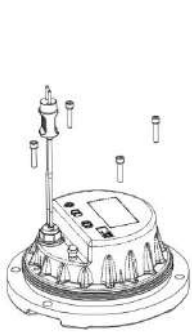

Figure 4-12
- Place the top of the lighting fixtures downwards and dismount 4 M5×25 hexagon socket cap screws (Figure 4-12).